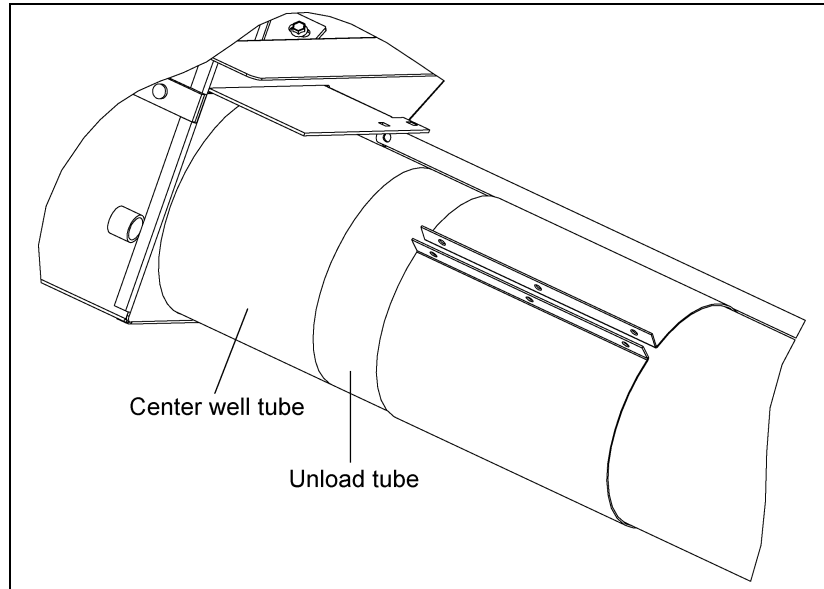

Figure 4G
4. Position the unload tube flush against the center well tube. (See Figure 4G.)